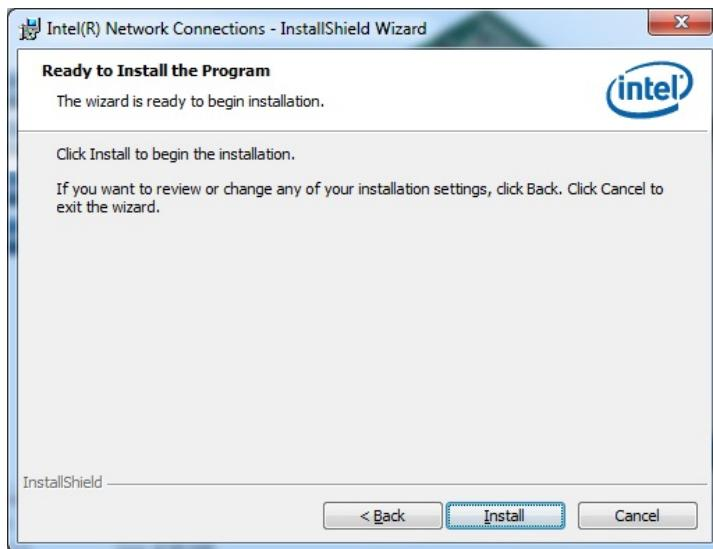

**Figure 6-11: LAN Driver Setup Options**
**Step 12:** The Setup Options screen in Figure 6-11 appears.